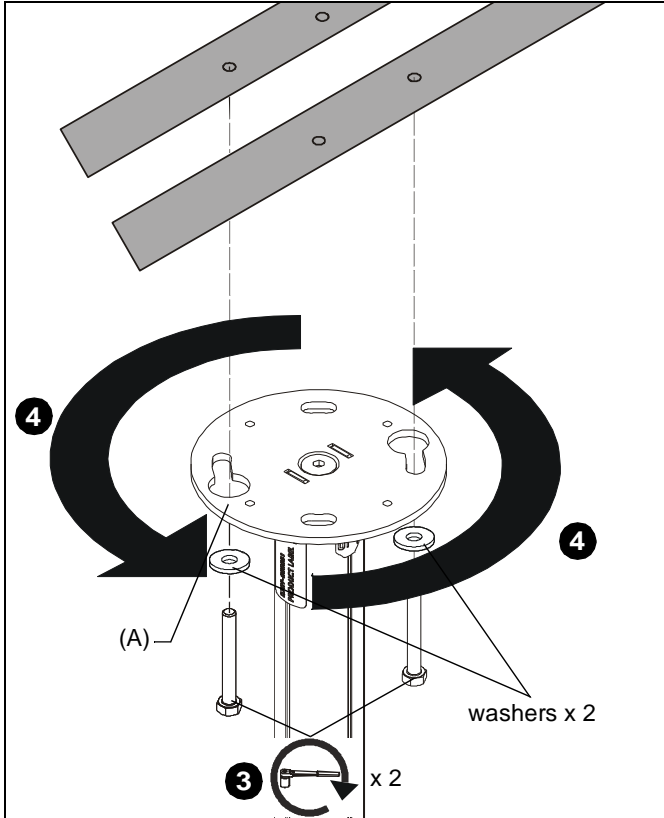

Figure 4
3. Loosely install two 5/16" x 2-3/4" (minimum) lag screws (not included) through two 5/16" washers (not included) into opposite corners of holes drilled in wood stud cross bracing. (See Figure 4)
4. Place ceiling plate (A) up to ceiling and turn until lag screws hold plate up in position. (See Figure 4)